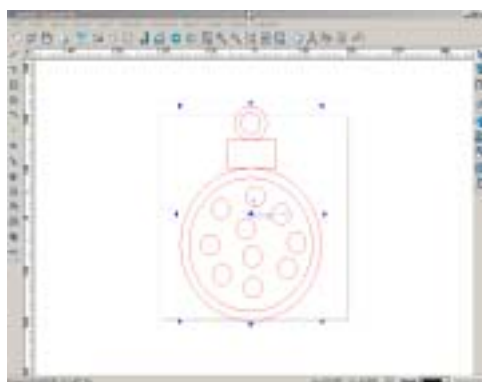

Fig. 12-4
3. Select the symbol and click on the shortcut icon  or click **Transform->Scale** command in the menu bar. Then the dialog in F12-3 is displayed. Set the parameters. The result is shown in Fig. 12-4.